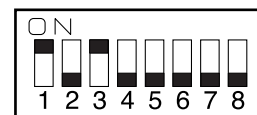

Figure 5-123
- 2) Set the DIP switch (SW1) of the ADF controller PCB as shown in Figure 5-123 .